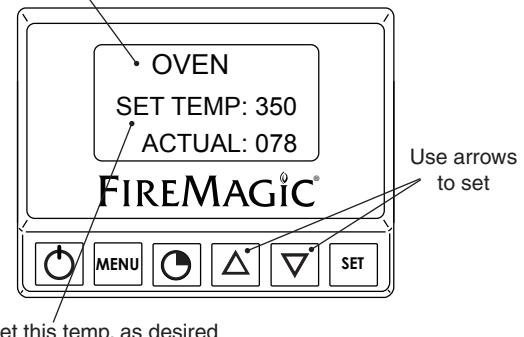

Fig. 16-1 Area temp. screen (oven shown)
- The selected location's temperature screen will be displayed. Use the arrows to set the desired temp. The actual temp. will also be shown (see Fig. 16-1).